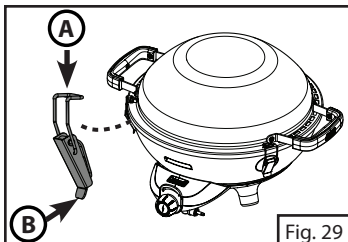

Fig. 29
4. Secure the wok by locking the latches around the outside edge of the water pan. (Fig. 29)